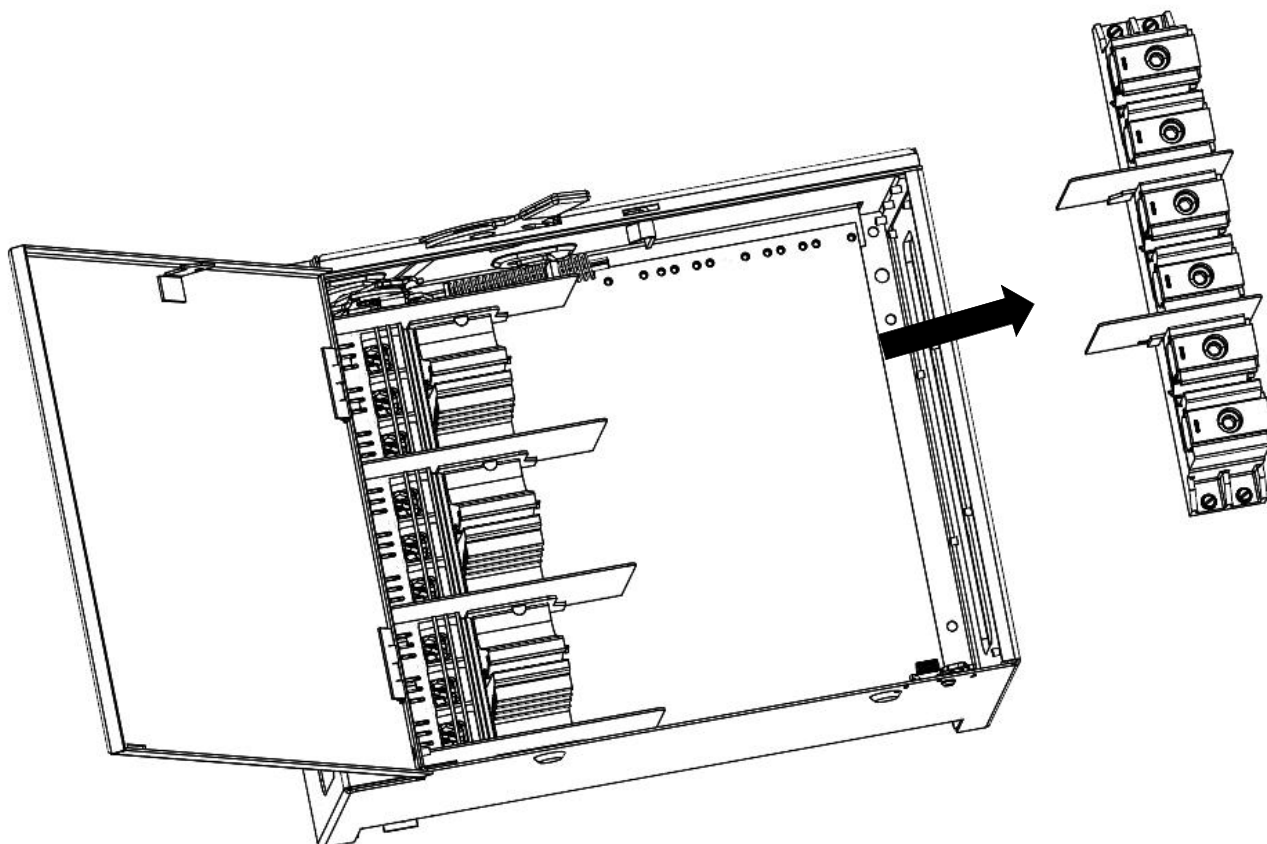

Figure 2
2. Remove load base and screws and set aside as shown in Fig. 2.